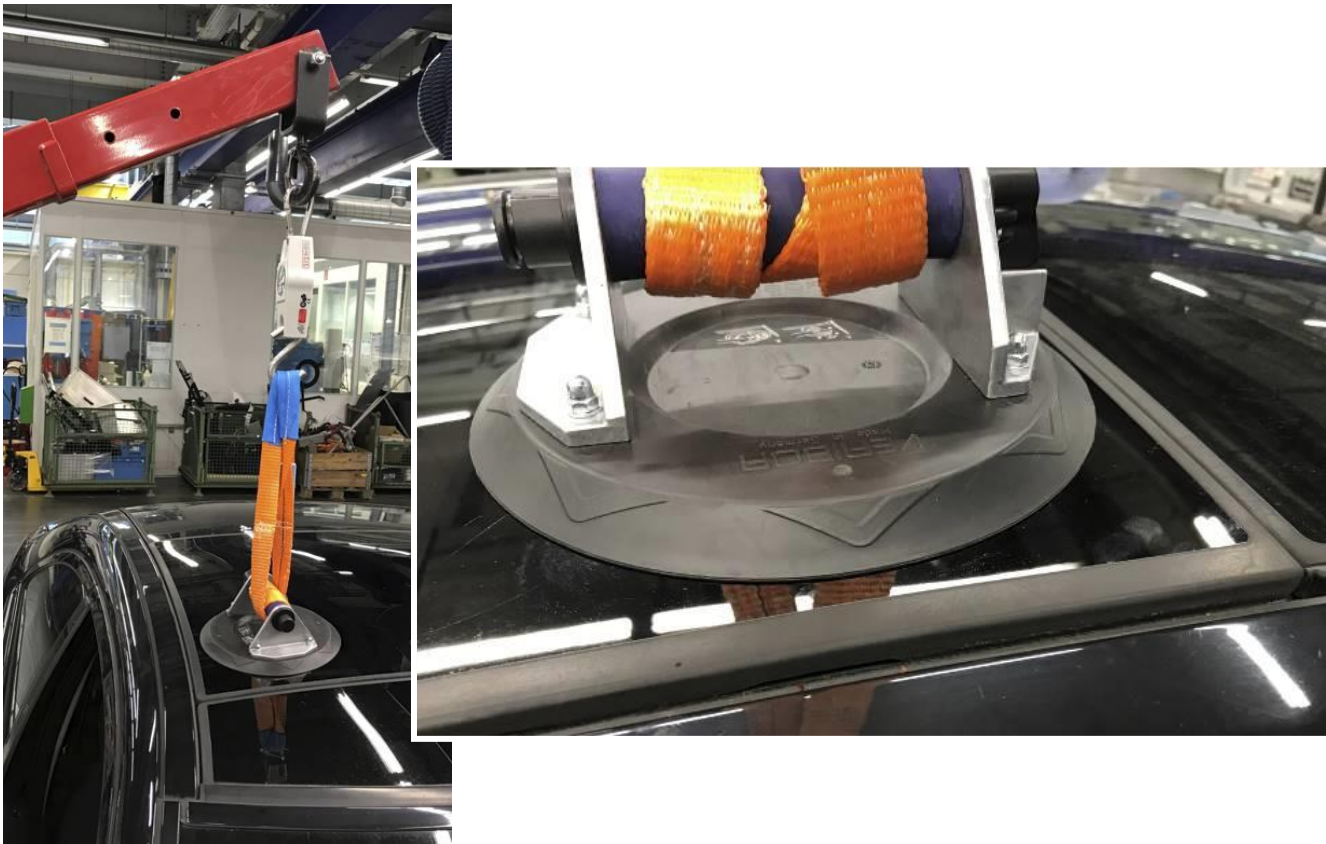

Figure 1
3. Position suction cup tool (**Figure 1**) and pull as **vertically** as possible (tolerance of ± 10 degrees) using lifting tool.